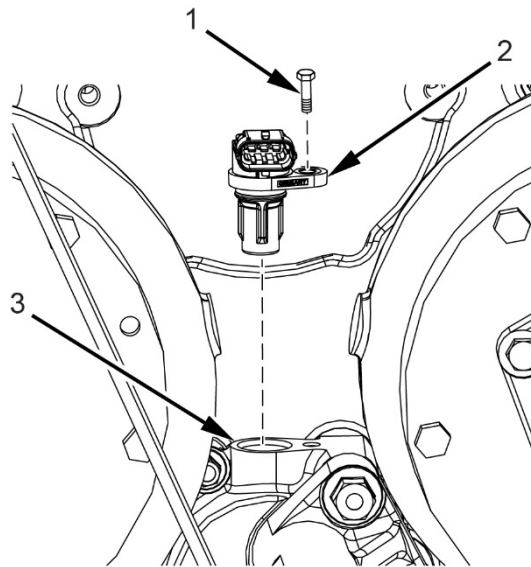

Figure 153.
7. Reinstall the speed sensor (Figure 153, item 2).
8. Loctite sealant 242 to the threads and install bolt (Figure 153, item 1) and secure speed sensor (Figure 153, item 2) to speed sensor seat (Figure 153, item 3). Tighten the bolt to recommended torque.